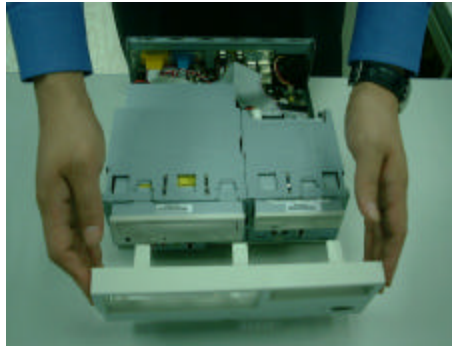

Figure 5-3
3. Remove the front panel cover as shown in figure 5-3 below.